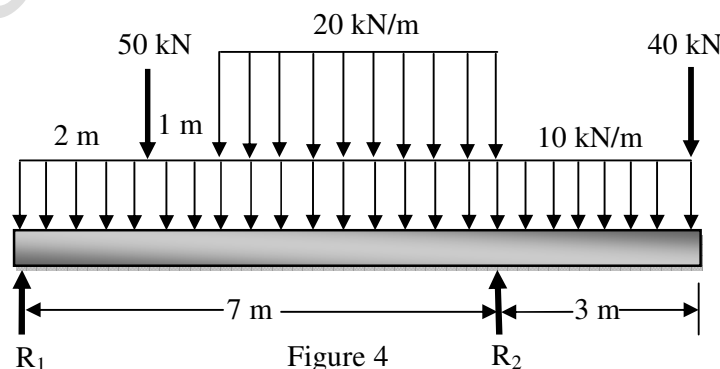

Figure 4
6. Draw the bending moment and shear force diagram for the beam loaded as shown in Figure 4. Mark the values at the salient points. Determine the point of contraflexure also. (15M)